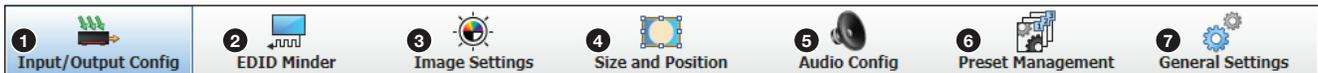
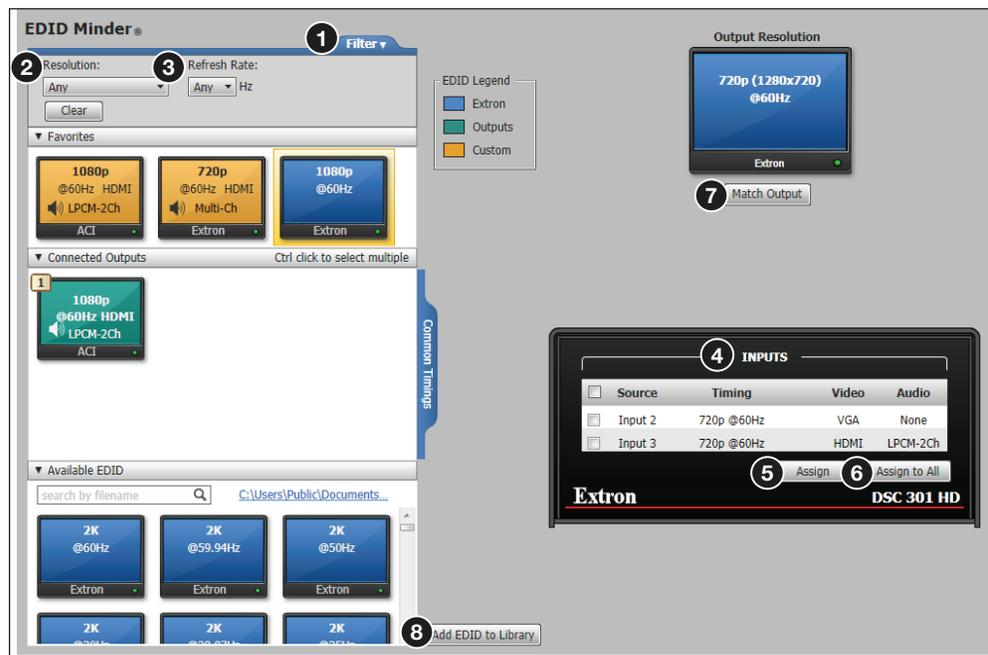

Figure 35. Global Navigation Bar
Figure 39. EDID Minder Screen
The configuration pages contain options for input and output configuration, EDID management, image settings, image size and position, audio configuration, preset management, and general settings. Each page is accessible via the global navigation bar (see figure 35).
Click the **Input/Output Config** icon (see figure 35, ①, on the previous page) to open this page. It contains panels for input configuration and output configuration.
EDID Minder is an EDID management process that manages the EDID information between the scaler and one or more input sources. Click the **EDID Minder** icon (see figure 35, 2, on page 50) on the global navigation bar to open the EDID Minder page (see figure 39).
- In the **Inputs** panel (see **figure 39**, **4** on the previous page), click the **Assign** button (**5**) to assign EDID to one or more selected inputs, or
1. From the Favorites, Connected Outputs, or Available panel right-click on an EDID (see figure 39, ① on page 54).
From this page, signal sampling and picture control settings can be adjusted, user and input presets can be saved and recalled, and overscan settings can be applied. Click the **Image Settings** icon on the global navigation bar to open the **Image Settings** page (see figure 35, ③ on page 50).